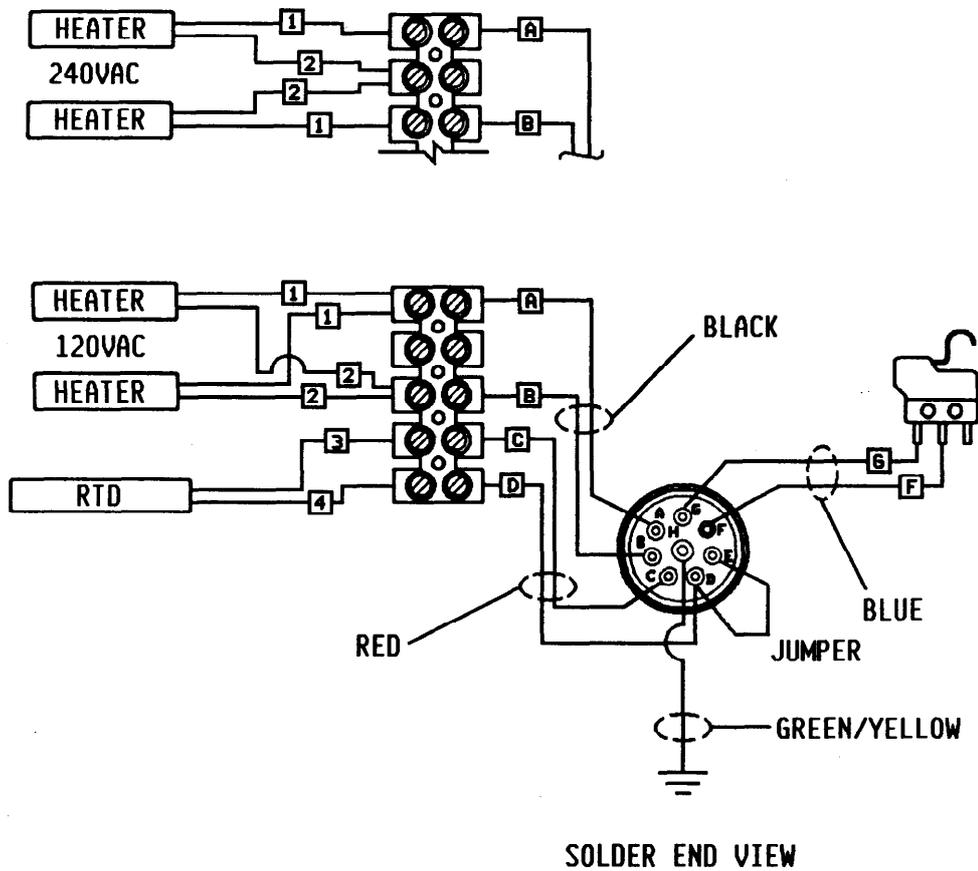

Figure 6-1 — Wiring Diagram
2. Open or short in cordset wiring.	2. Check cordset wiring for continuity between connector pins and terminal strip. If an open or short circuit exists, replace cordset. See Figure 6-1.
6. Coat heater cartridges and RTD with heat sink compound (Nordson P/N 900298) and install in proper locations in hydraulic body (8).
7. Feed leads of new heater cartridges and RTD around insulation sleeve (12), through insulation block (9) and handle (6). Connect leads to terminal strip as shown in Figure 6-1.
8. Install warning plate (2) on handle using lockwashers and screws (1). Tighten screws securely.
2. Use a multimeter to check for an open circuit across cordset connector pins F and G (see Figure 6-1) with trigger disengaged. If an open circuit does not exist:
- a. Insert allen wrench (supplied with gun) into setscrew (4).
- a. Insert allen wrench into setscrew (4).
3. Feed cordset wires through top or bottom of handle and connect according to wiring diagram (Figure 6-1) to terminal block, gun ground, and switch.
12. Connect heater cartridge and RTD leads to terminal block (see wiring diagram, Figure 6-1).
13. Re-install trigger on handle with pivot in slot in puller. Secure trigger with screw (5).
14. Lubricate new seat O-ring (4) with Parker O-Lube or equivalent. Pull back on trigger to retract ball, thread new seat (1) into hydraulic body and tighten securely.